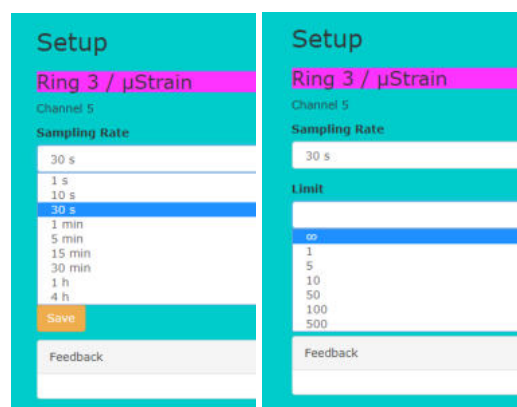

Figure 25: Channel setup with sampling rate (left) and limit adjustment (right).
- The sampling rate can be adjusted from the „Sampling Rate“ in the range of 10 seconds to 4 hours (fig. 25, left). The corresponding measurement values are recorded according to the set interval.
- The limit value for each channel from the „Limit“ can be specified (fig. 25, right). If the limit is set to ∞ the data will be collected according to the set recording interval of the sampling rate. If the limit is set to for example to $n=5$ the data logger will record the additional data where the difference of the measured value between two measurement points bigger than 5. This gives the possibility to record the changes in the measured value independent from the set recording interval. The unit of the limit value is due to the channel selected.